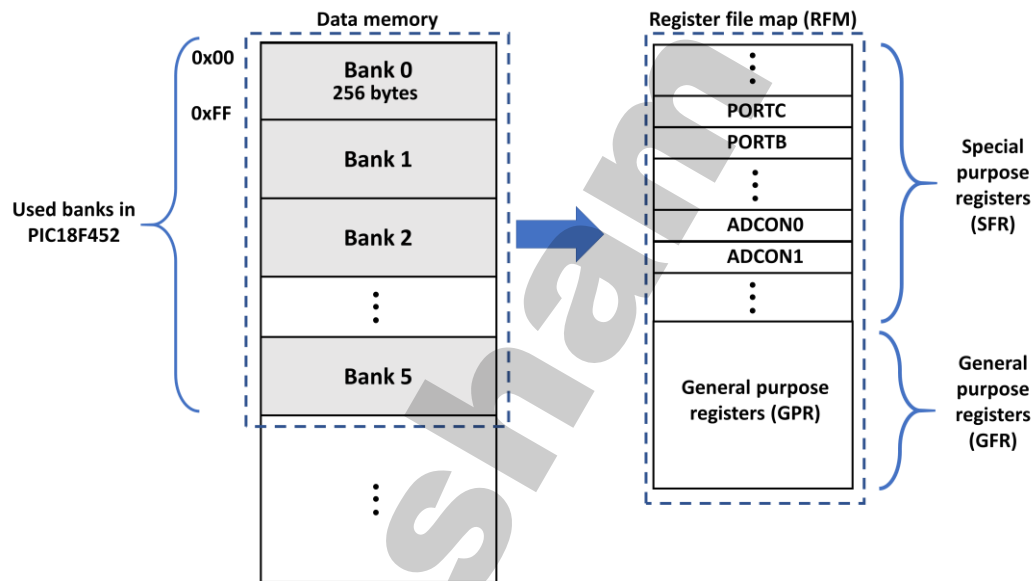

Fig. 1-6.
- The layout (خريطة) of all registers available in a microcontroller called Register File Map (RFM) as shown in Fig. 1-6.